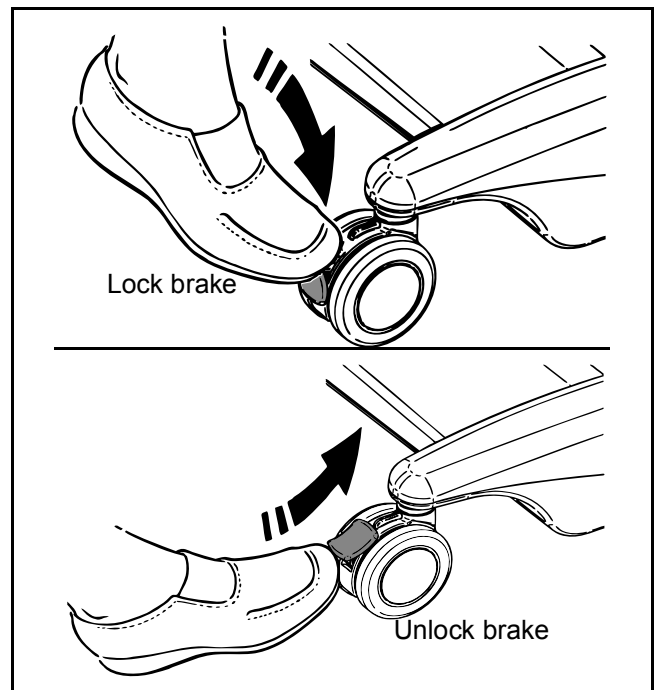

Fig. 13
(See Fig. 13) The chassis rear castors have brakes which can be foot operated to keep the MAXI MOVE in position.
**CAUTION:** The chassis rear castors have brakes which can be foot-operated when required (see Fig. 13). Do not apply the chassis brakes at this stage, as the position of the patient will adjust to the centre of gravity of the lift while the patient is being raised.